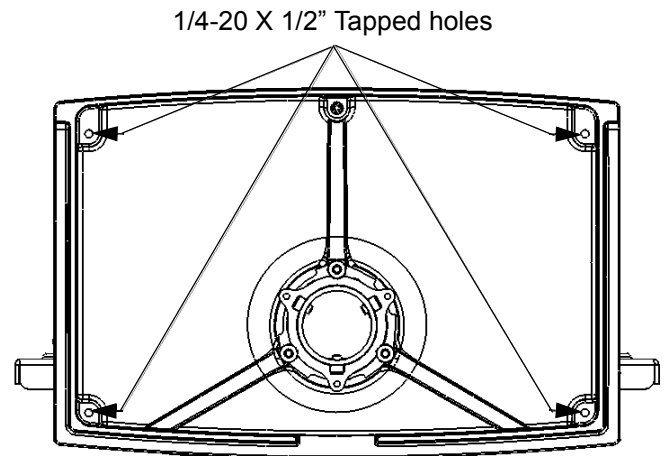

Figure 12. Anchoring Hole Locations
2. Using the template provided, drill anchoring holes for the four 1/4-20 X 1/2" tapped holes (see Figure 12).